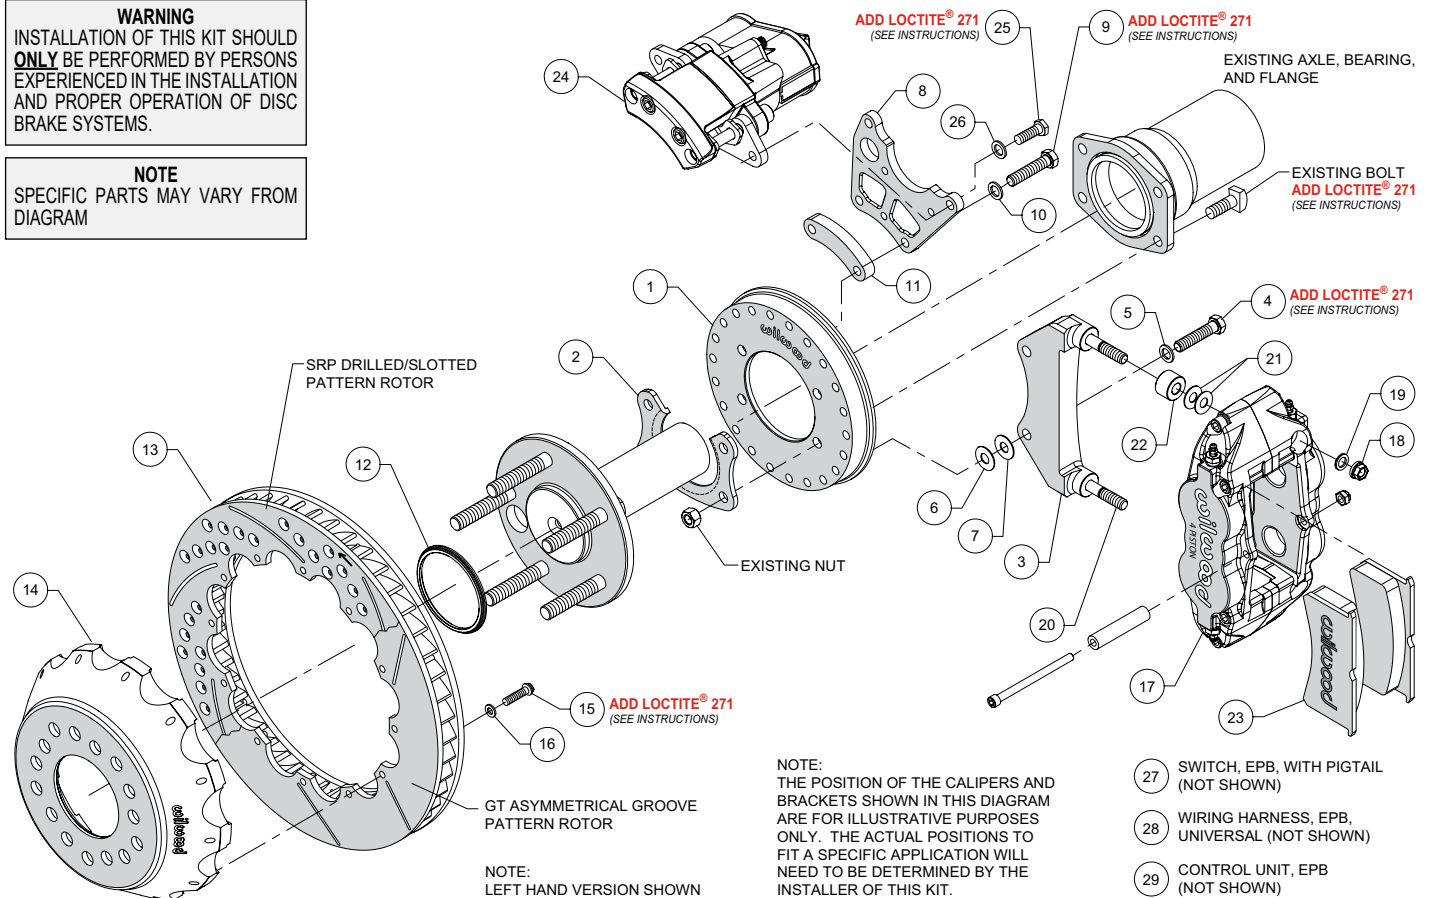
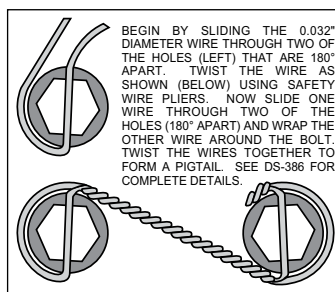

Figure 1. Typical Installation Configuration
Figure 5. Safety Wire Diagram
(numbers in parenthesis refer to the parts list, and Figure 1 on the preceding pages):
- Orient the backing plate (1) as shown in Figure 1 and Photo 1, and slide it onto the axle housing flange. Ensure the backing plate fits flush against the axle housing flange. Reinstall the axle into the axle housing.
- Install the bearing retainer (2) with the opening pointing upward and the lip facing inward (toward the bearing), as shown in Figures 1 and 4, and Photo 2. Secure retainer and backing plate to the axle housing flange using the Original Equipment Manufacturer (OEM) bolts and nuts, Figure 1 and Photo 3. Apply red *Loctite*® 271 to the OEM bolt threads and torque to OEM specifications.
- Start by determining the best location for the service caliper (17). This caliper is usually mounted in the 3:00 or 9:00 o'clock position, but may be rotated up or down approximately 45 degrees and still allow for proper bleeding, Photo 4. Orient the service caliper bracket (3) as shown in Figure 1 and Photo 5, and install to the backing plate (1) in the desired location using bolts (4) and washers (5). Temporarily tighten bolts. Next, mount the service caliper onto the bracket. Mount the service caliper using lock nuts (18) and washers (19), Figure 1. Temporarily tighten the lock nuts. Check that the caliper (including inlet fitting and hose) has sufficient clearance to all surrounding components through the full suspension travel. Relocate the caliper/bracket on the backing plate as needed to ensure proper clearance is achieved.
- Determine the best location for the EPB caliper (24). **NOTE:** *The EPB caliper motor extends farther inboard than the service caliper and therefore needs additional consideration when determining a mounting location with sufficient clearance.* In the example application shown in Photo 6, the EPB caliper has sufficient inboard clearance to the leaf spring. However, if the EPB caliper were mounted closer to the 12:00 o'clock position, the inner body of the vehicle would hit the caliper during full compression of the suspension.
•Orient the EPB caliper bracket (8) as shown in Figure 1 and Photo 7, and install to the backing plate (1) in the desired location using bolts (9), washers (10), and spacer (11). Temporarily tighten bolts. **NOTE:** The EPB bracket is reversible. In one direction the bracket will position the EPB caliper closer to the service caliper, and vice versa if reversing the bracket. Next, mount the EPB caliper (24) to the bracket using bolts (25) and washers (26). Temporarily tighten bolts. **NOTE:** EPB calipers are Left and Right handed, however they can be used on either side of the vehicle to best suit your specific application. Check that the EPB caliper (including wiring harness connector) has sufficient clearance to all surrounding components through the full suspension travel. Relocate the EPB caliper/bracket on the backing plate as needed to ensure proper clearance is achieved.
•Once the caliper positions have been determined, remove both the service (17) and EPB (24) calipers, leaving both brackets in place on the backing plate. For the EPB bracket, remove the bolts one at a time, apply red Loctite® 271 to the threads, and torque to 35 ft-lb. The service caliper bracket will be final installed after shimming is determined.
•Orient the rotor (13) and the hat (14) as shown in Figure 1 and Photo 8. Attach rotor to hat using bolts (15) and washers (16). Apply red Loctite® 271 to the bolt threads and torque to 155 in-lb using a criss-cross pattern. For an added measure of security, the bolts may be safety wired using standard 0.032 inch diameter stainless steel safety wire as shown in Figure 5. Please refer to Wilwood's data sheet DS-386 (available at www.wilwood.com/Pdf/DataSheets/ds386.pdf) for complete safety wire installation instructions.
•Initially place two .035" thick shims (21) and one spacer (22) on each stud of the service caliper bracket (3) as shown in Figure 1 and Photo 10. Mount the caliper onto the bracket using lock nuts (18) and washers (19), Figure 1. Temporarily tighten the lock nuts and view the rotor through the top opening of the caliper. The rotor should be centered in the caliper, Photo 11. If not, adjust by adding or subtracting shims (6 and/or 7)) between the service caliper bracket (3) and the backing plate (1). Always use the same amount of shims on each of the two mounting bolts. Once the caliper alignment is correct, remove the bracket mounting bolts (4) one at a time, apply red Loctite® 271 to the threads, and torque bolts to 35 ft-lb.
- Mount the EPB caliper (24) onto the caliper mounting bracket (8) using bolts (25) and washers (26), Figure 1. Apply red *Loctite*® 271 to bolt threads, and torque to 30 ft-lb.
• **NOTE:** The service caliper (17) in this brake kit utilizes a 1/8-27 NPT pipe thread inlet. OEM rubber brake hoses generally cannot be adapted to Wilwood calipers. The preferred method is to use steel adapter fittings at the caliper, either straight, 45 or 90 degree (use PTFE tape on pipe threads of adapter fitting for proper sealing to caliper) and enough steel braided line to allow for full suspension travel. **Carefully route hoses to prevent contact with moving suspension, brake or wheel components.** **NOTE:** Wilwood hose kits are designed for use in many different vehicle applications and it is the installer's responsibility to properly route and ensure adequate clearance and retention for brake hose components. Wilwood offers universal brake flex line hose kits, domestic (3/8-24 IF) chassis fittings, order: